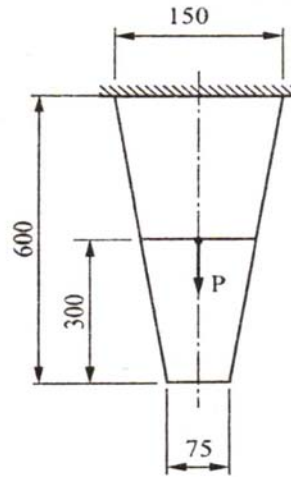

Fig. 3.
- (b) A thin plate shown in fig 3. has a uniform thickness of 20 mm and modulus of elasticity $200 \times 10^3 \text{ N/mm}^2$ and a density of 7800 kg/m^3 . In addition to its self weight, the plate is subjected to a point load P of 500N which is applied as shown in fig. Find: 07